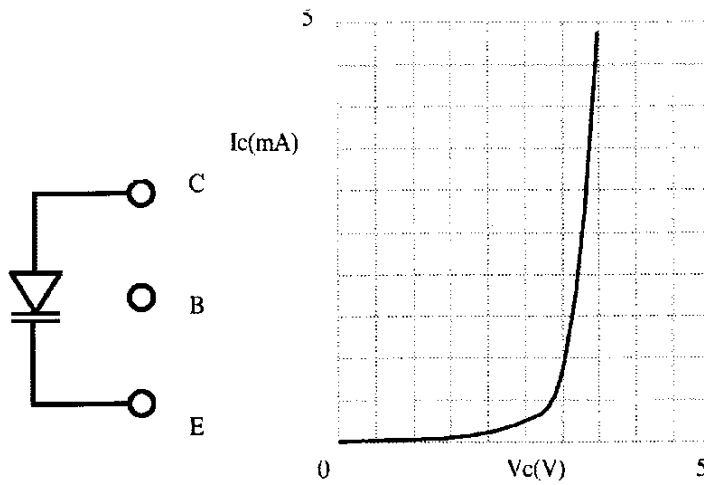

Fig. 3-4
3.2.4 Forward current curve of diode IN4148 (see Fig. 3-4)